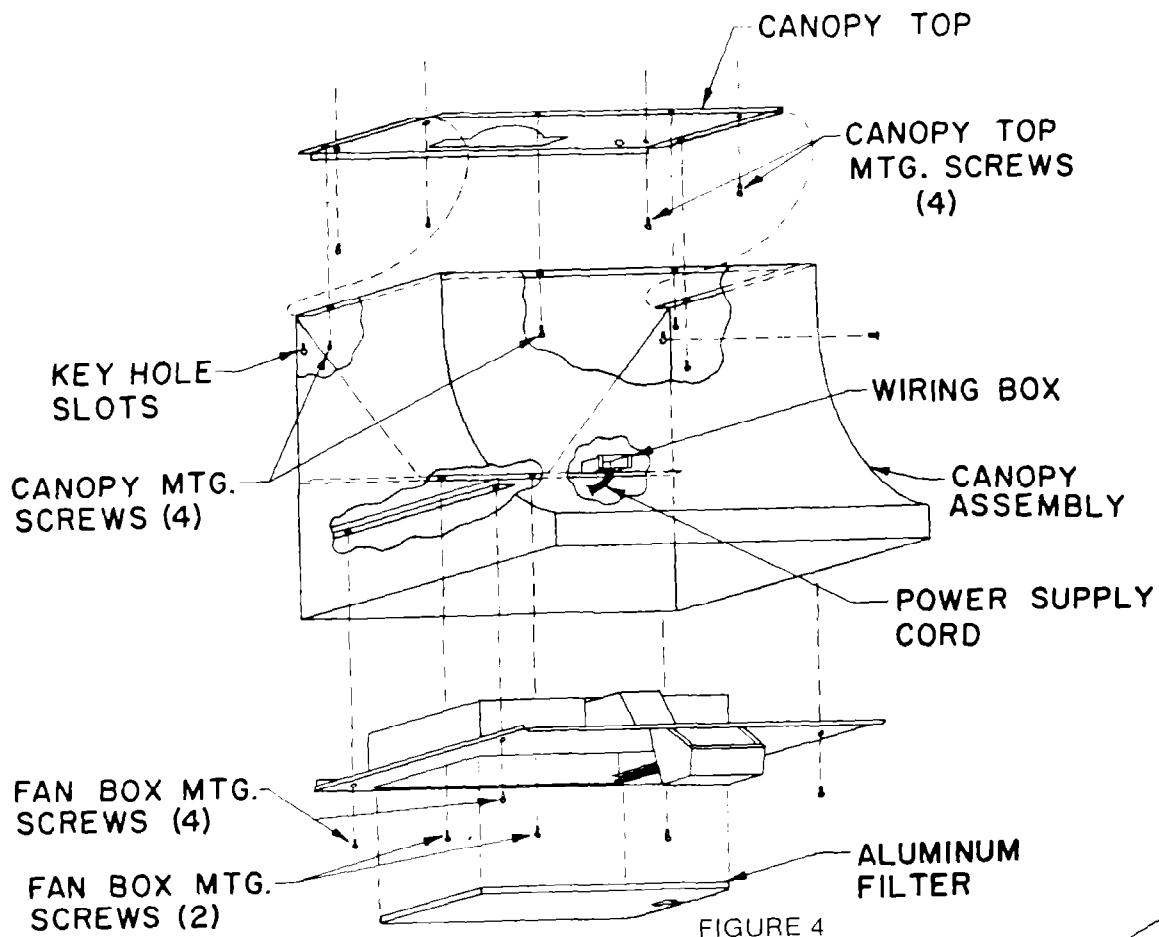

FIGURE 4
6. With necessary duct work in place (see Fig. 4), lift fan box assembly into position and secure with 6 screws.
2. Lift canopy assembly and mark location for 2 mounting holes at top of key hole slots. (Figure 4)
7. With necessary duct in place (see Figure 4) lift fan box assembly into position and secure with six screws.